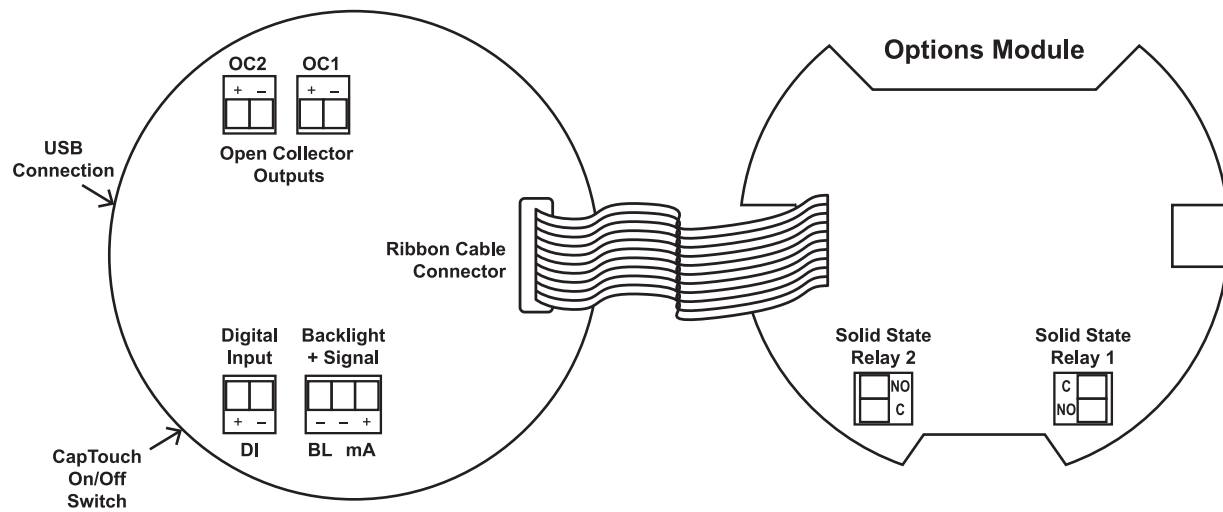

Figure 5. Connector Labeling for PD6907-GP-PL-L2N
Relay connections are made to two-terminal connectors, as shown on *Figure 5*, page 19. Each relay's C terminal is common only to the normally open (NO) contact of the corresponding relay.